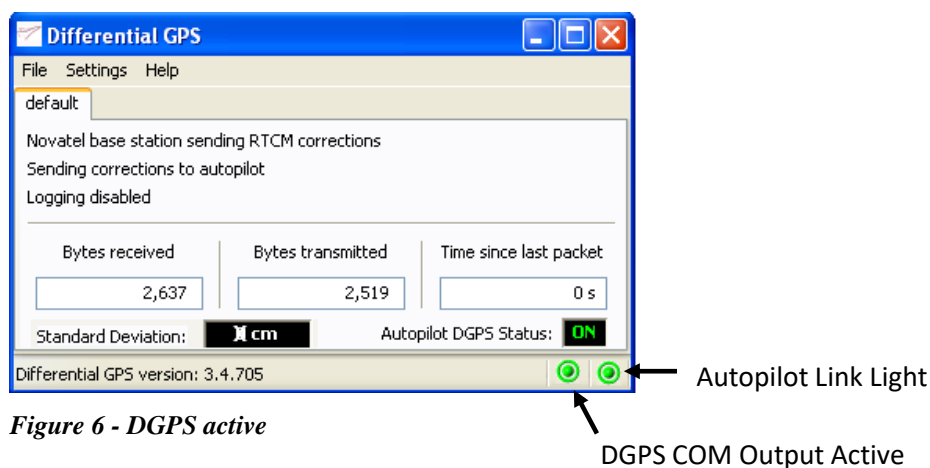

Figure 6 - DGPS active
- When the GPS receiver is receiving correction signals and it has activated its DGPS mode, the indicator for DGPS Status will show ON. See Figure 6.